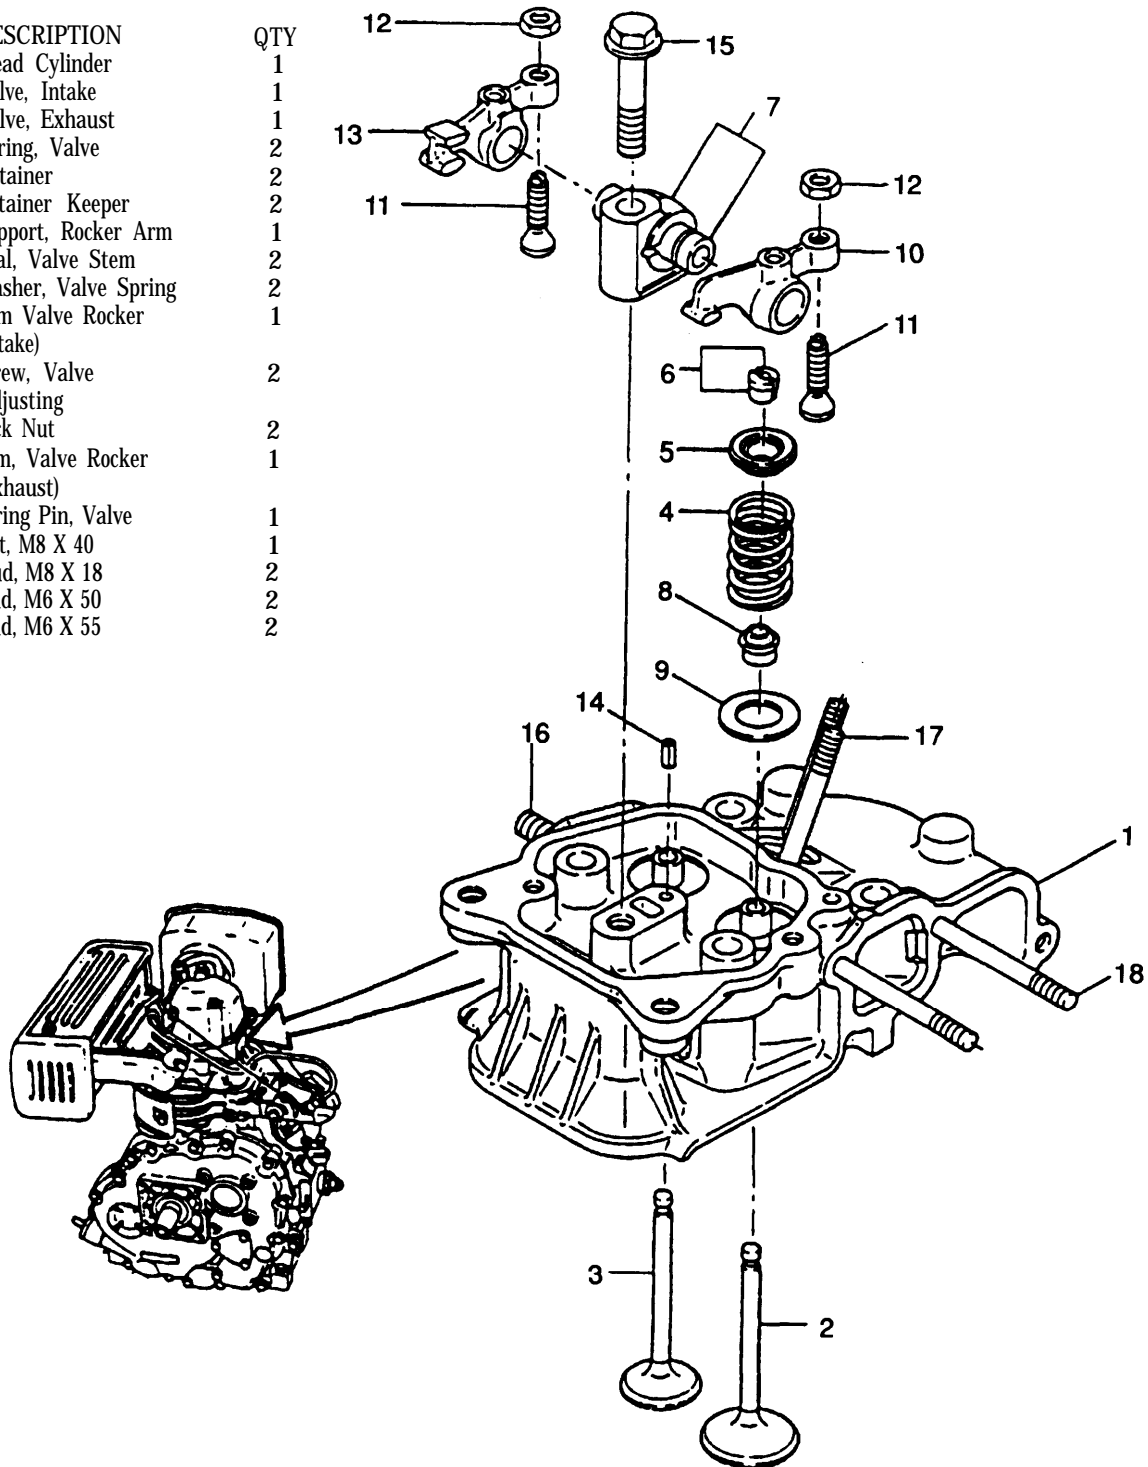
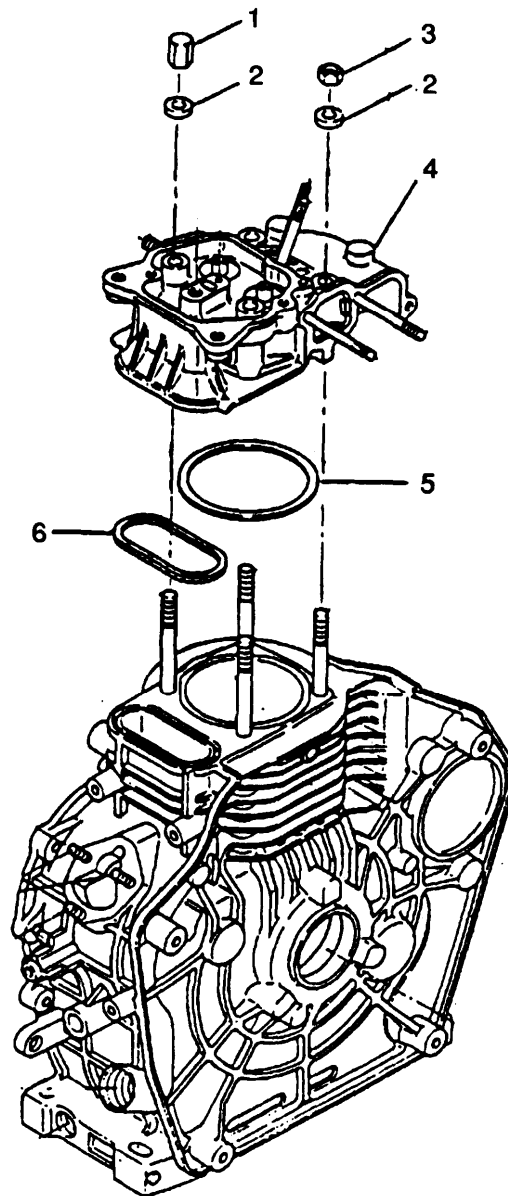

Figure 5-2. Cylinder Head Assembly
Figure 5-3. Removing Cylinder Head
- a. Remove rocker arm support bolt (15, Figure 5-2)
- b. Remove rocker arm support (7) with intake and exhaust valve rocker arms (10 and 13) attached.
- c. Remove retainer (5) and retainer keeper (6) from top of valve spring (4).
- d. Remove valve spring (4).
- e. Remove valve spring washer (9).
- f. Remove two nuts (1, Figure 5-3) and washers (2) from cylinder head studs.
- g. Remove two cylinder head nuts (3) and cylinder head washers (2) from cylinder head studs.
- h. Remove cylinder head assembly (4) by lifting straight up off the four cylinder head studs.
- i. Remove and discard push rod O-ring (6) and cylinder head gasket (5).
- a. Replace any valves (refer to 2 and 3, Figure 5-2) that show warpage, burning, or other damage.
- h. Replace valve spring (refer to 4, Figure 5-2) if any of the following are true.
- (1) Valve spring is damaged.
- (2) Valve spring free length is greater than 1.043 inches (26.5 mm).
- (3) Valve spring inclination is greater than 0.039 inch (1.0 mm).
- i. Replace valve rocker arm support shaft (refer to 7, Figure 5-2) if shaft diameter is less than 0.4685 inch (11.90mm).
- j. Replace rocker arm (refer to 13, Figure 5-2) if ID exceeds 0.4764 inch (12.1 mm).
- a. Place new cylinder head gasket (refer to 5, Figure 5-3) and push rod O-ring (refer to 6, Figure 5-3) onto cylinder block.
- b. Install cylinder head (refer to 4, Figure 5-3) onto four studs protruding from cylinder block.
- c. Secure cylinder head (refer to 4, Figure 5-3) to cylinder block using four nuts (refer to 1 and 3, Figure 5-3) with four washers (refer to 2, Figure 5-3)
- e. Install valve spring washer (refer to 9, Figure 5-2)
- f. Install valve spring (refer to 4, Figure 5-2)
- g. Install retainer (refer to 5, Figure 5-2) and retainer keeper (refer to 6, Figure 5-2)
- i. Install rocker arm support (refer to 7, Figure 5-2) with intake and exhaust valve rocker arms (refer to 10 and 13, Figure 5-2) attached.
- j. Tighten rocker arm support bolt (refer to 15, Figure 5-2) with torque wrench to 14-16 ft-lb (200-220 kg-cm).